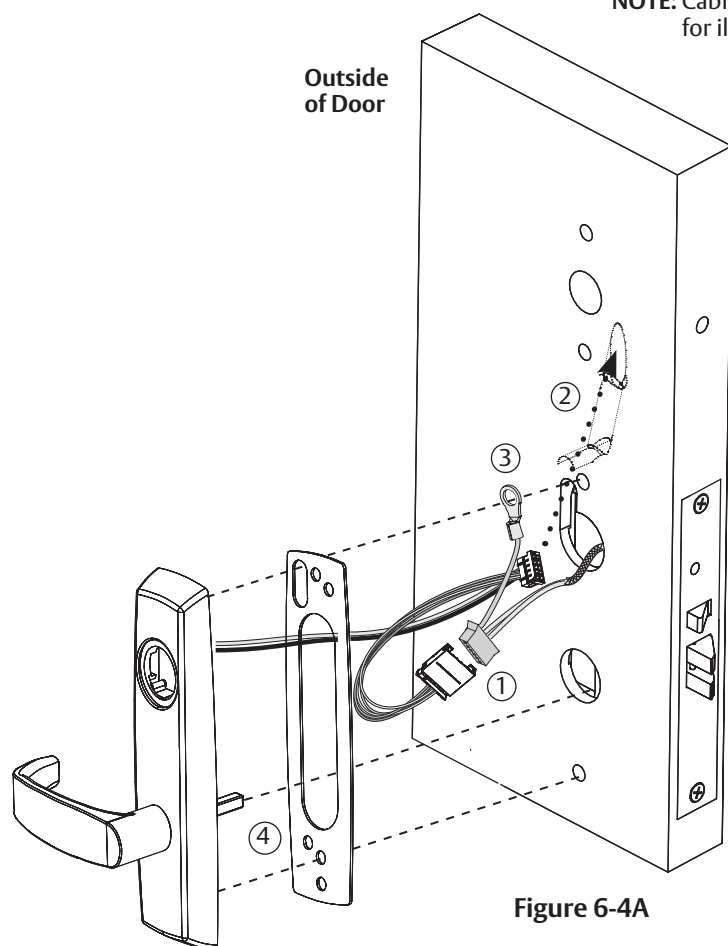

Figure 6-4A
1. Connect motor harness adapter to chassis harness connector (Figure 6-4A).